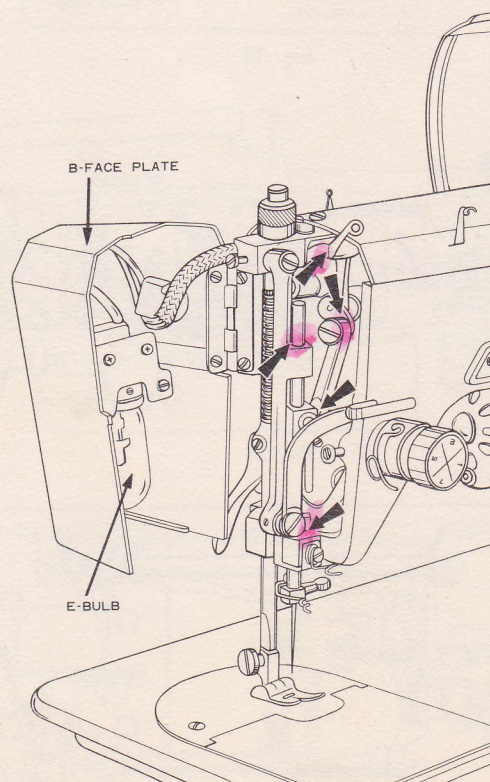

Fig. 34a
The sewing light is mounted inside the hinged face plate. To replace the bulb, open the face plate (B) Fig. 34a. This will allow for easy removal of bulb (E) and replacement.